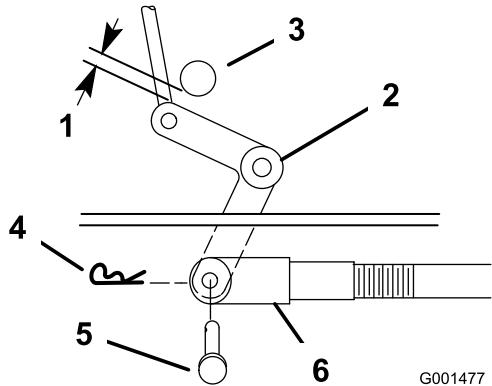
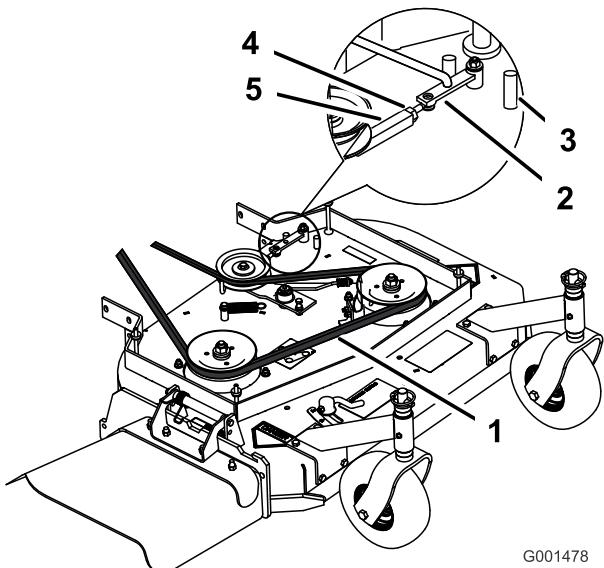
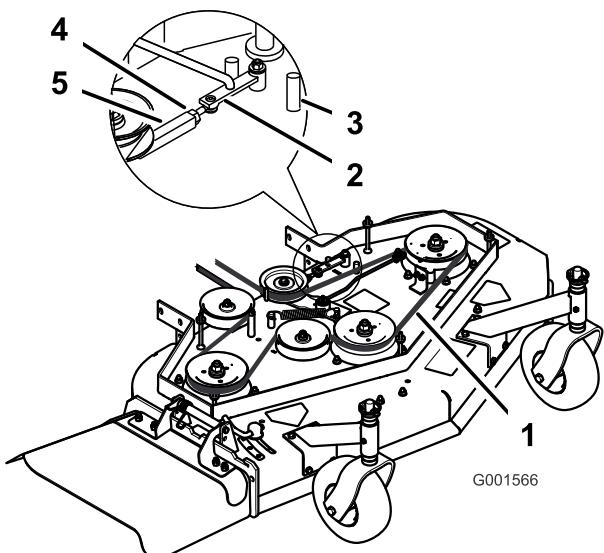

Figure 41
Figure 42
Figure 43
9. Check the clearance between the bell crank and the transmission output shaft (Figure 41).
11. Rotate the clevis clockwise on the rod to increase the clearance; rotate it counterclockwise to decrease it (Figure 41).
Note: If the assist arm does not contact the front stop on the mower deck (Figure 42 or Figure 43), adjust the clevis to bring the bell crank closer to the transmission output shaft (Figure 41).